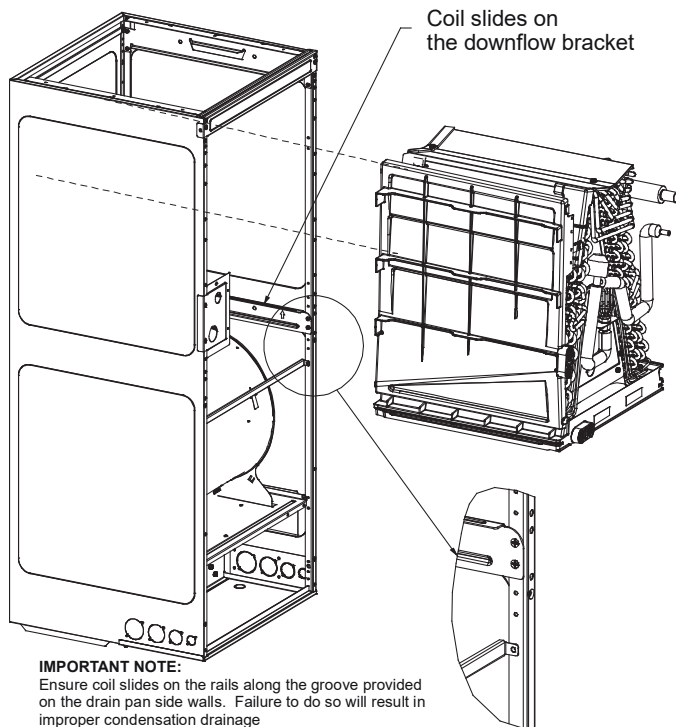

Figure 9
5. Using the bottom drain pan to hold the coil assembly, slide the coil assembly back into the cabinet on the downflow brackets as shown in Figure 9.